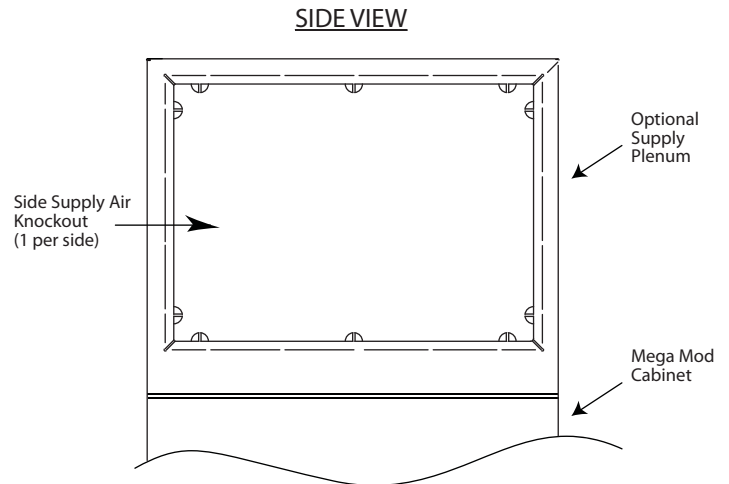

Figure 21
1. If the unit has been ordered with a supply air plenum, then each side of the unit has one supply air knockout as well as a supply air knockout on the top of the unit (see Figures 21 and 22).